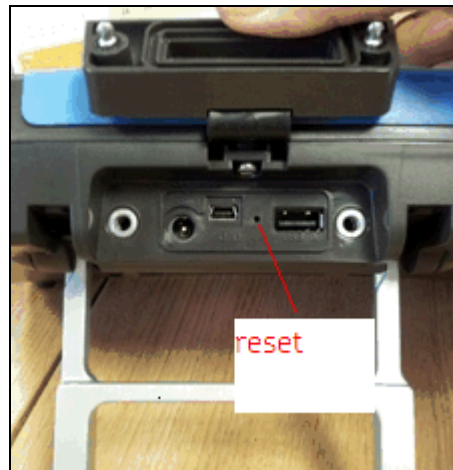

Figure 1. Hard reset button
- Using a straightened paper clip or pin, press the reset button located between the two USB connectors. [Figure 1] The SKF title screen will display for a few seconds while the application loads, and then the Home screen will display.